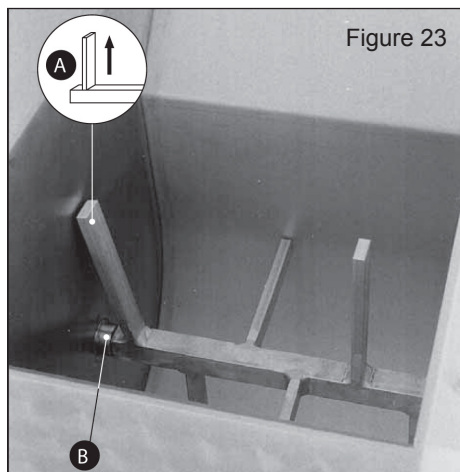

Figure 23
- Make sure the external shovel (Figure 23A) is in the upper vertical position (only this position allows the disassembling of the piece) (Figure 23).